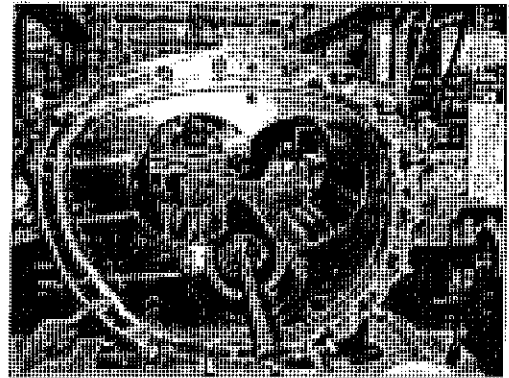
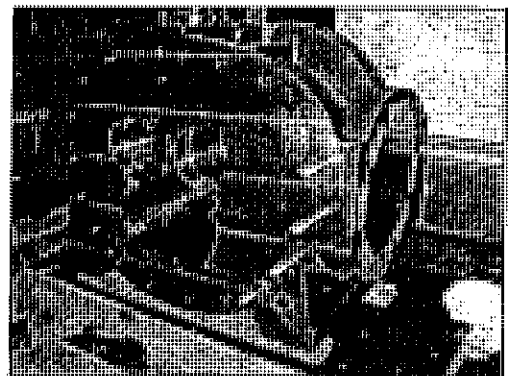

Fig. 3-8
Fig. 3-9
- (7) Install stud bolts on Discharge Casing (B03) (Fig. 3-9) and Rotor Casing (B02) (Fig. 3-8). Place O-ring (B15) in the groove and apply Three Bond to the flange surface of Rotor Casing (B02) (Fig. 3-8).